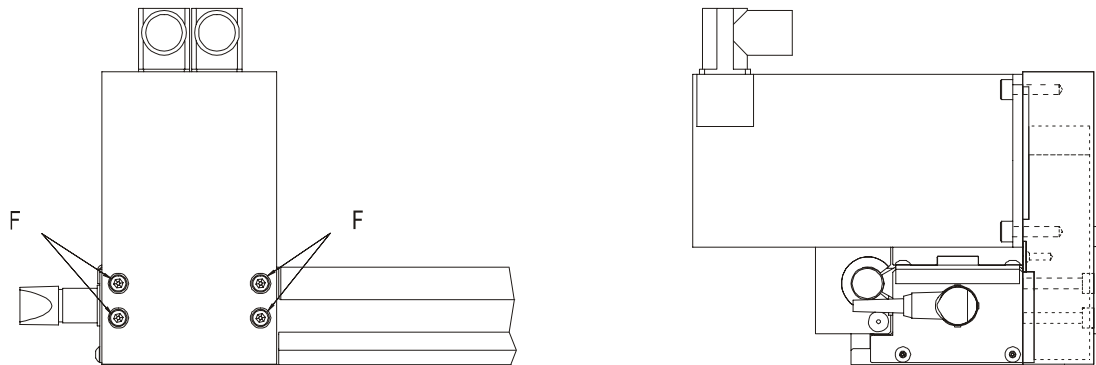

Figure 21: Belt Drive, Variation 1
- Remove the motor flange cover by undoing the fastening screws (see Figure 21, F).
- Press the motor away from the basic body. The toothed gear belt is tensioned. Then tighten screws (see Figure 21, F) securely.